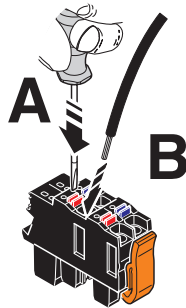

Figure 5-4 Connecting a stranded cable
- Open the spring by pressing on the spring lever with a screwdriver (A in Figure 5-4).
- Insert the cable into the terminal point (B in Figure 5-4).
1. Connect the power supplies to the supply plug as shown in Figure 5-3 and in Figure 5-4. Please observe the information in Section 3.15.